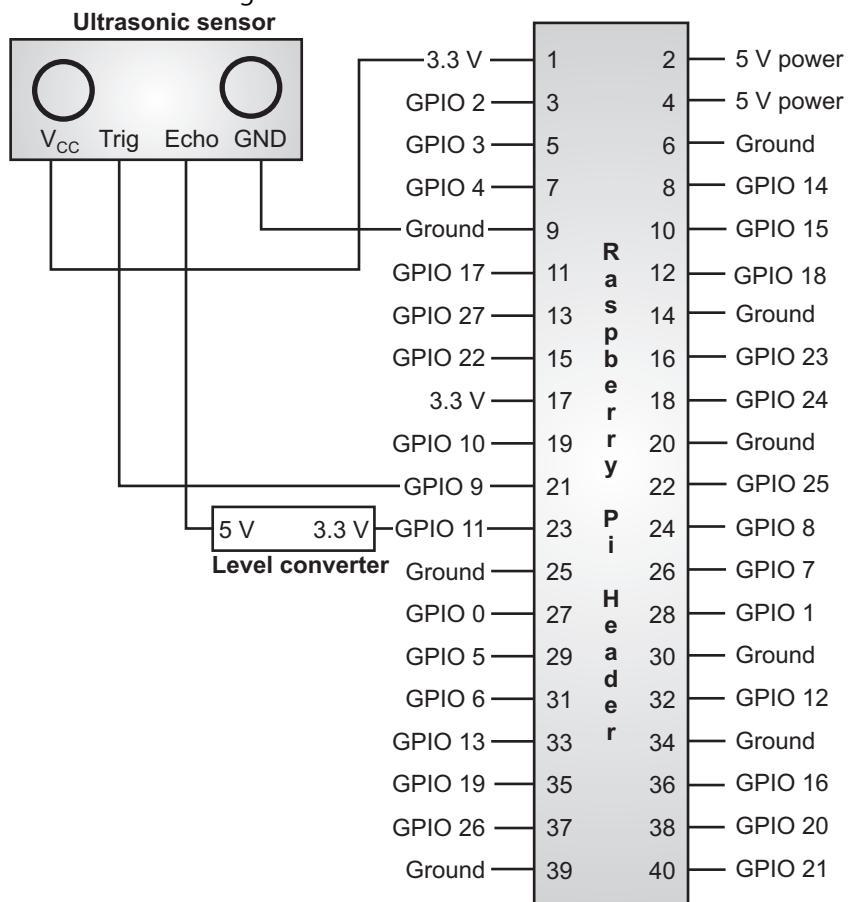

Fig. 4.11 : Interfacing ultrasonic sensor to Raspberry Pi
- The ultrasonic sensor is interfaced to Raspberry Pi as shown in below Fig. 4.11. As Raspberry Pi works on 3.3V and ultrasonic sensor require 5 V, a level converter is connected as shown in Fig. 4.11.